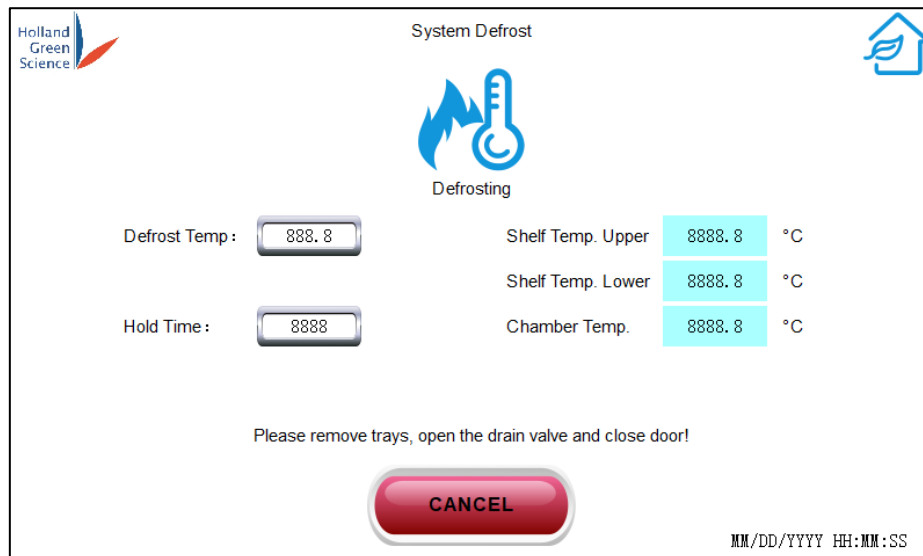

Figure 33
- Click on “CANCEL” to stop the defrosting process (Figure 33). This will cause the system to return to the home screen.